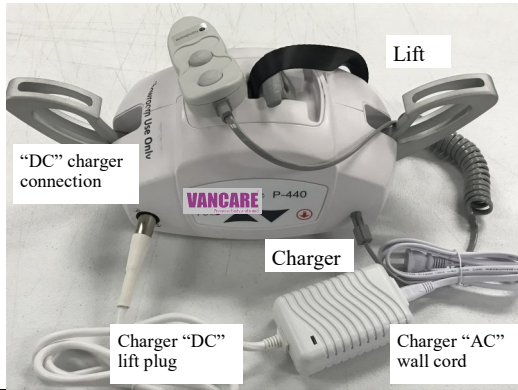

Figure 12A - P-440 lift and charger set on a secure table top or counter for charging.
Step 1) Familiarize yourself with the basic components of the charging system. Refer to figures 12A and 12B.